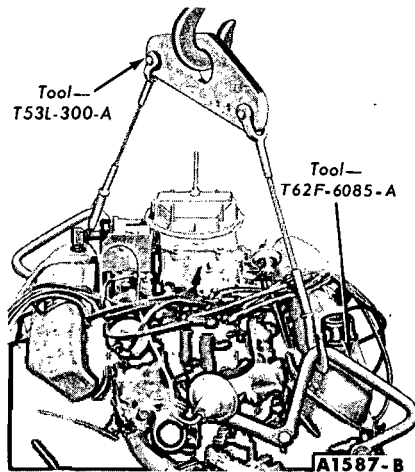

FIG. 67—Engine Lifting Brackets and Sling—Typical
the rear of the right cylinder head; then attach the engine lifting sling (Fig. 67).
2. Attach the engine lifting brackets and sling (Fig. 67). Remove the engine from the work stand.